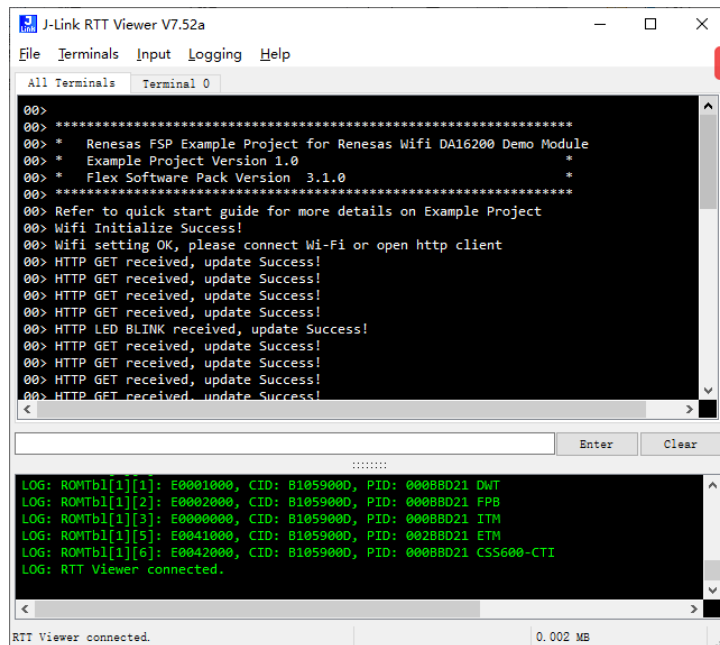

Figure 5. Wifi Operation View
2. After **Wifi setting OK**, please connect **Wi-Fi** or open **http client** appears in Figure 5, find **Renesas_Wifi** in the wireless network and enter the network security key of **12345678**, finishing the connection between PC or smartphone with this solution kit.